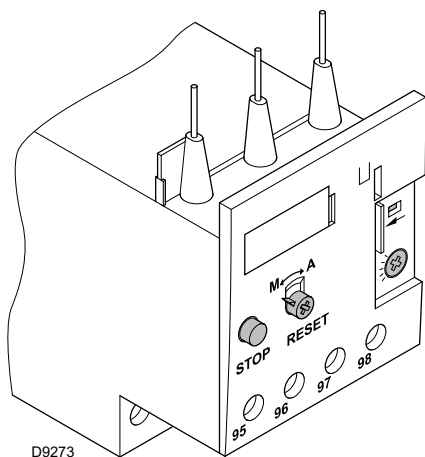

Fig. 28
The electro-mechanical terminal relay (Fig. 28) is used to avoid damage to the motor owing to a strong increase in absorption or the lack of a phase.
- To reset, in the case of an intervention of the thermal relay, press the button **"RESET"** (Fig. 28).
- The button **"STOP"** (Fig. 28) opens the NC (95-96) contact and stops the motor.